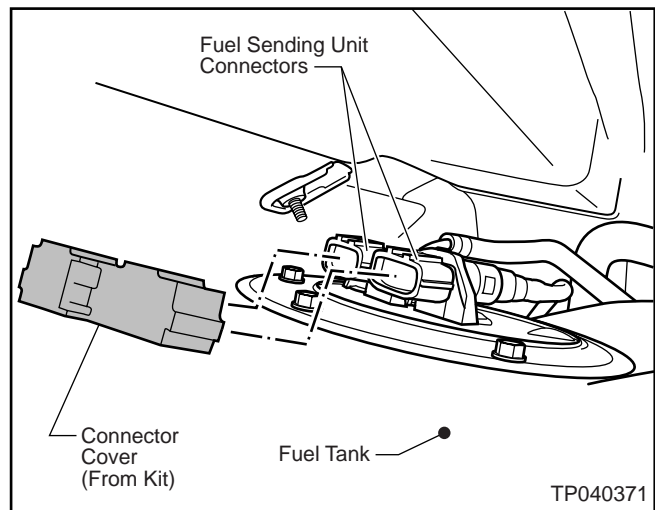

Figure 8
9. Install the Connector Cover onto the Fuel Sending Unit Connectors until it is fully seated. See Figure 8.